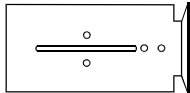

Figure 27
- Make sure you have received the parts shown in Table 13 and Figure 27 below.